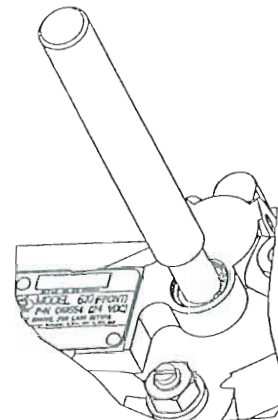

Fig 8
- 1) Using the control valve cover removal tool, press down on the control valve cover to relieve spring pressure and remove the retaining ring using retaining ring pliers. (See Fig 8)